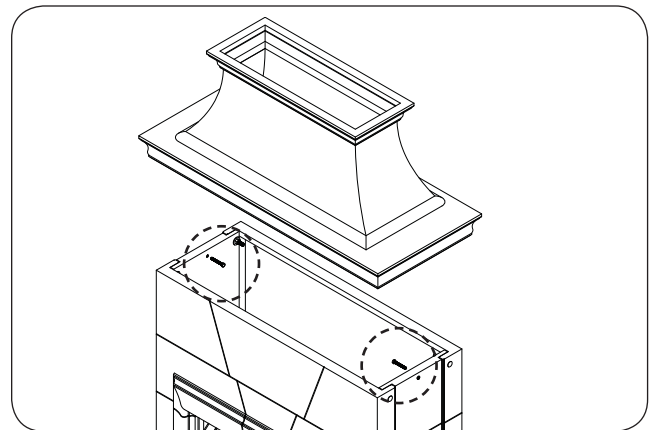
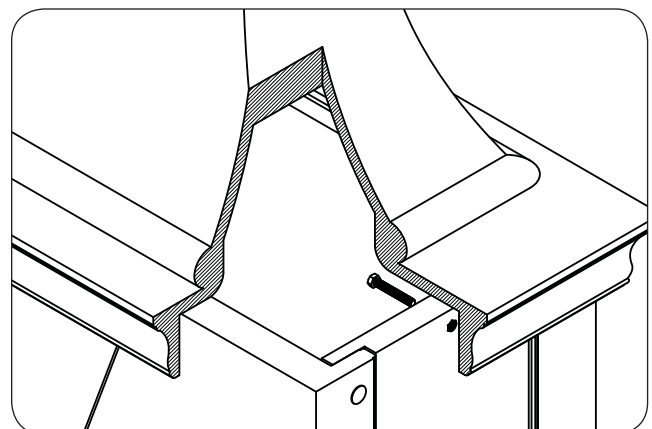

Fig. 21-2 Assemble chimney
Fig. 21-3 Bolt detail
1. Place the chimney piece on top of the body piece. See Fig. 21-2.
2. The left and right sides of the body interior each have a pre-installed bolt for securing the chimney. Reach up through the body and tighten the two bolts using a 9/16" open end wrench (or equivalent). See Fig. 21-2 and Fig. 21-3.